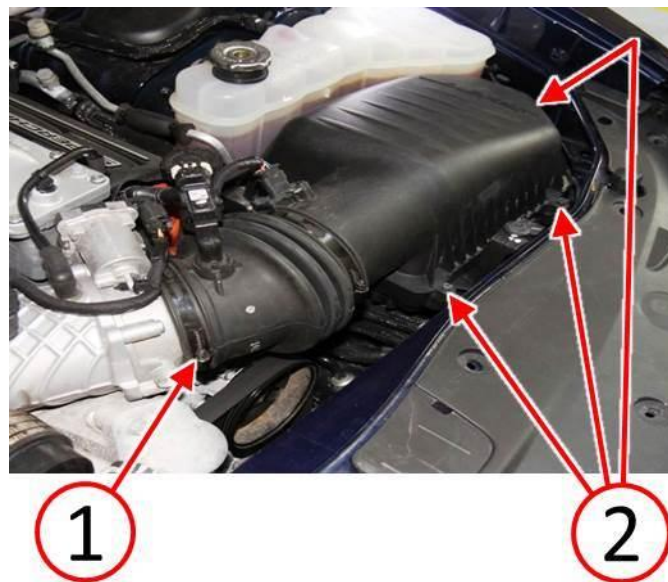

Fig. 3 Air Inlet
6. Remove three screws (2) securing the air cleaner housing cover (Fig. 3).
7. Loosen the air inlet duct clamp (1) then rotate the air inlet assembly up to provide access (Fig. 3). It is not necessary to disconnect electrical connectors or fully remove the air inlet from the vehicle.